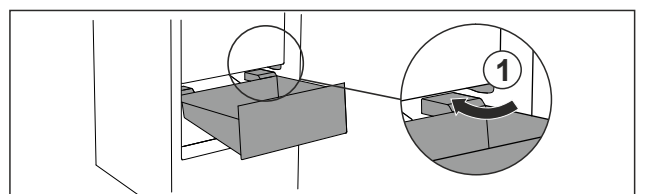

Fig. 87
- ▶ Guide drawer in at an angle around the stoppers Fig. 87 (1).